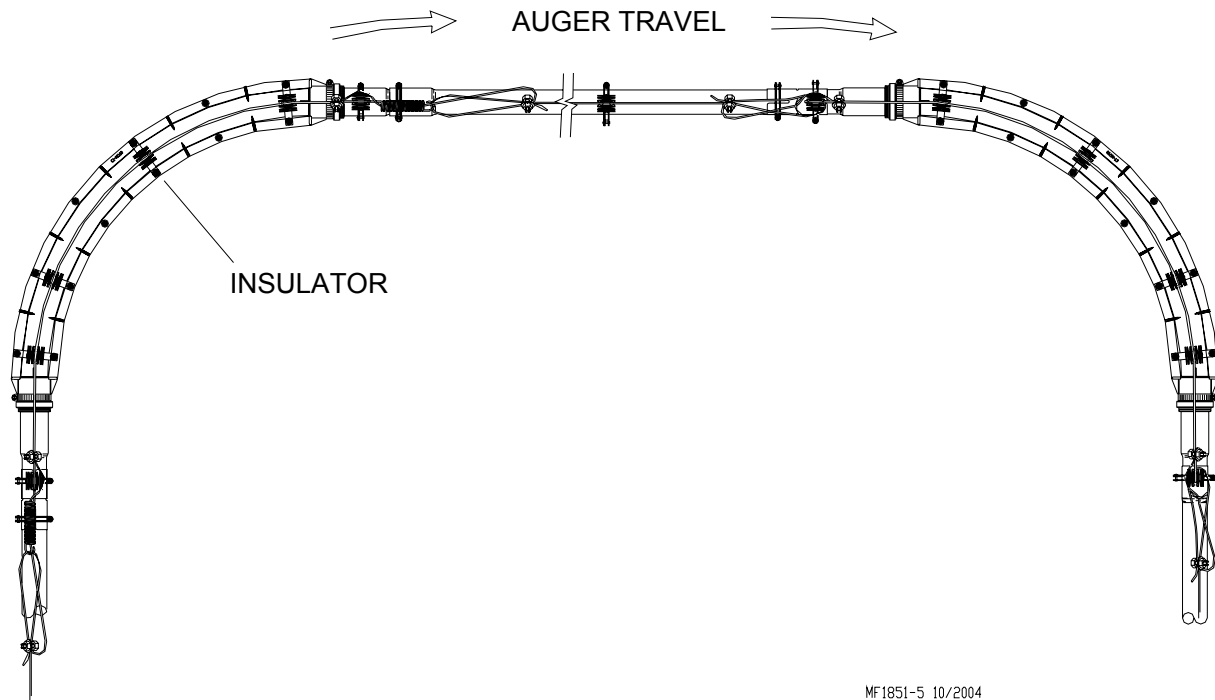

Figure 41. Anti-Roost Installation at the Elbows
11. Anti-Roost clamps must be installed around the elbows, as shown in **Figure 41**.
The Anti-Roost Wire is provided to be used around the elbows. Snap it down in the center groove of the insulators on the elbows. See **Figure 41**.